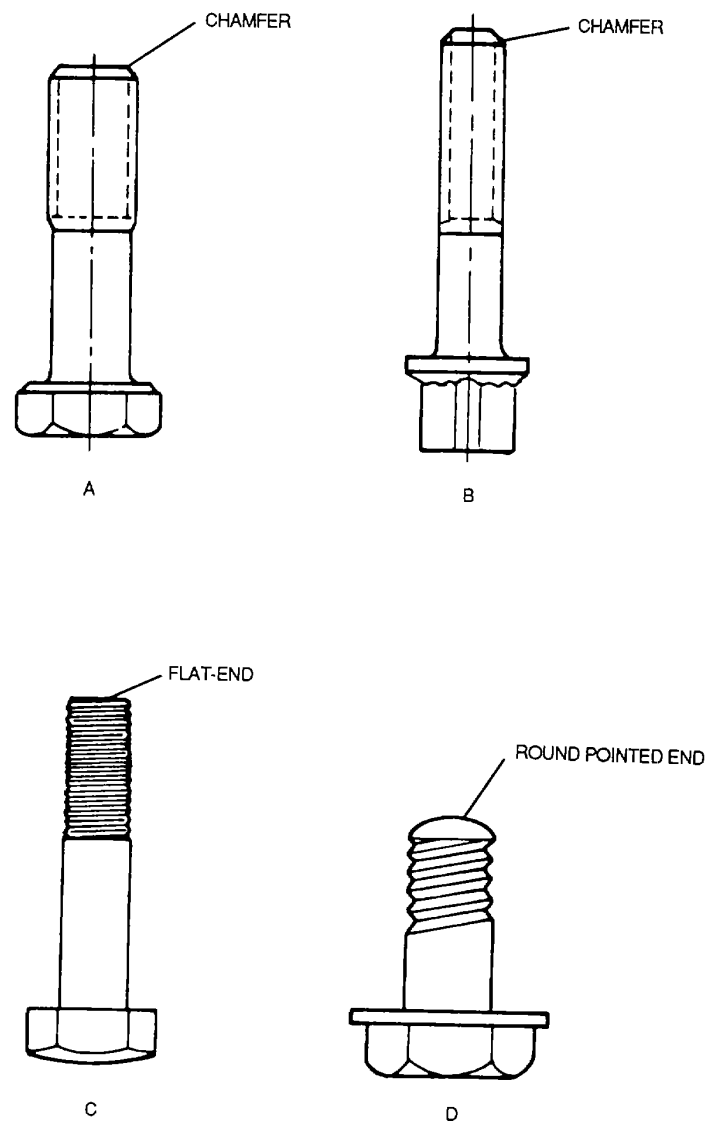

Figure 2-1. Bolt-End Description
b. Installation and End Description. Whenever possible, bolts should be installed with the bolt head up, outboard or forward to prevent the bolt from falling out, should the nut come loose. On rotating controls, heads should be installed in the direction of rotation, except where interference occurs. The shape of the bolt ends varies as shown in figure 2-1. Bolts A and B show varied chamfer angles, bolt C shows a flat end, and bolt D a round or pointed end.